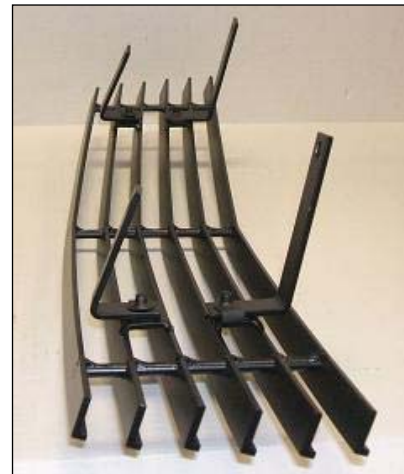

Figure 2
2. Install two (2) Short L Brackets to the upper mounting holes of the Center Grille as shown in Figure 2. Do not tighten the screws at this time.
3. Install two (2) Long L Brackets to the lower mounting holes of the Center Grille as shown in Figure 2. Do not tighten the screws at this time.